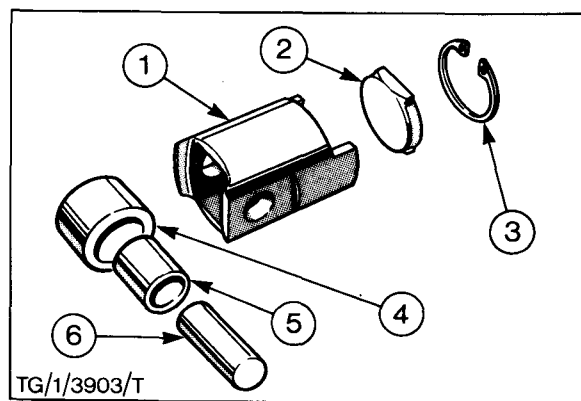

Fig. 41 - Tappet Assembly
17. Take each tappet assembly in turn from the tray and withdraw the pin followed by the bush and roller. Separate the bush and roller (Fig. 41).